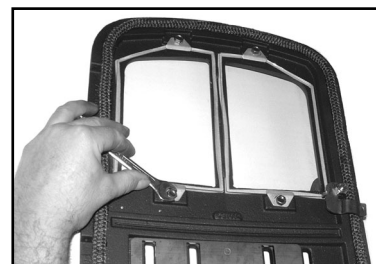

Fig. 8 Tightening glass clips
- Replace the two retaining clips and nuts. Do not over-tighten the nuts as damage may occur to the glass (Fig.8) Re-place the door(s) carefully over the hinges and slot in place.